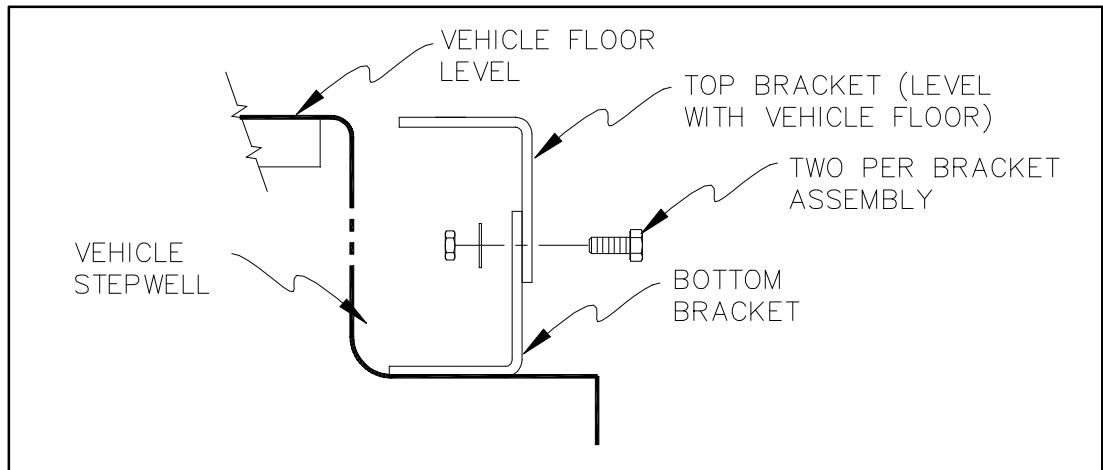

FIGURE 2-3: STEPWELL BRACKET
- a. Refer to **Figure 2-3**. Using four 1" x 3/8" bolts, 3/8" washers, 3/8" lock washers and 3/8" hex nuts, assemble two bracket assembly kits.